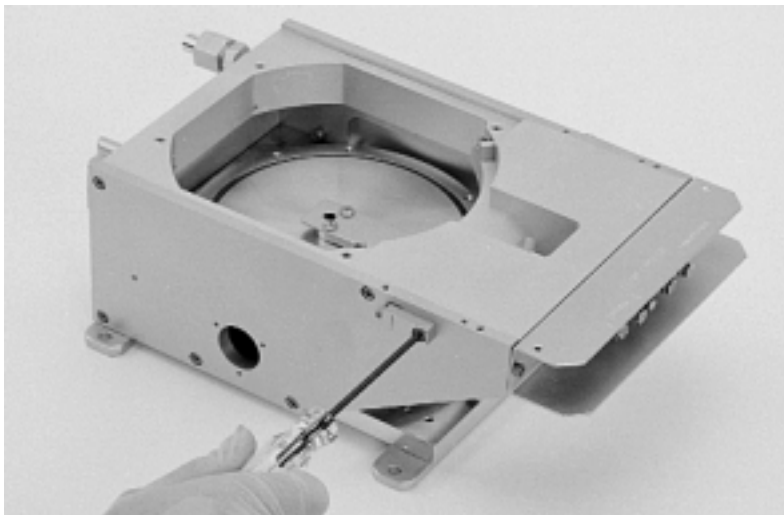

Figure 6-11. Removing the internal pole extensions
Step 10: Remove the internal pole extensions. To do so, remove the 8-32 1/2" screws that secure them to the pole pieces, as shown in Figure 6-11.